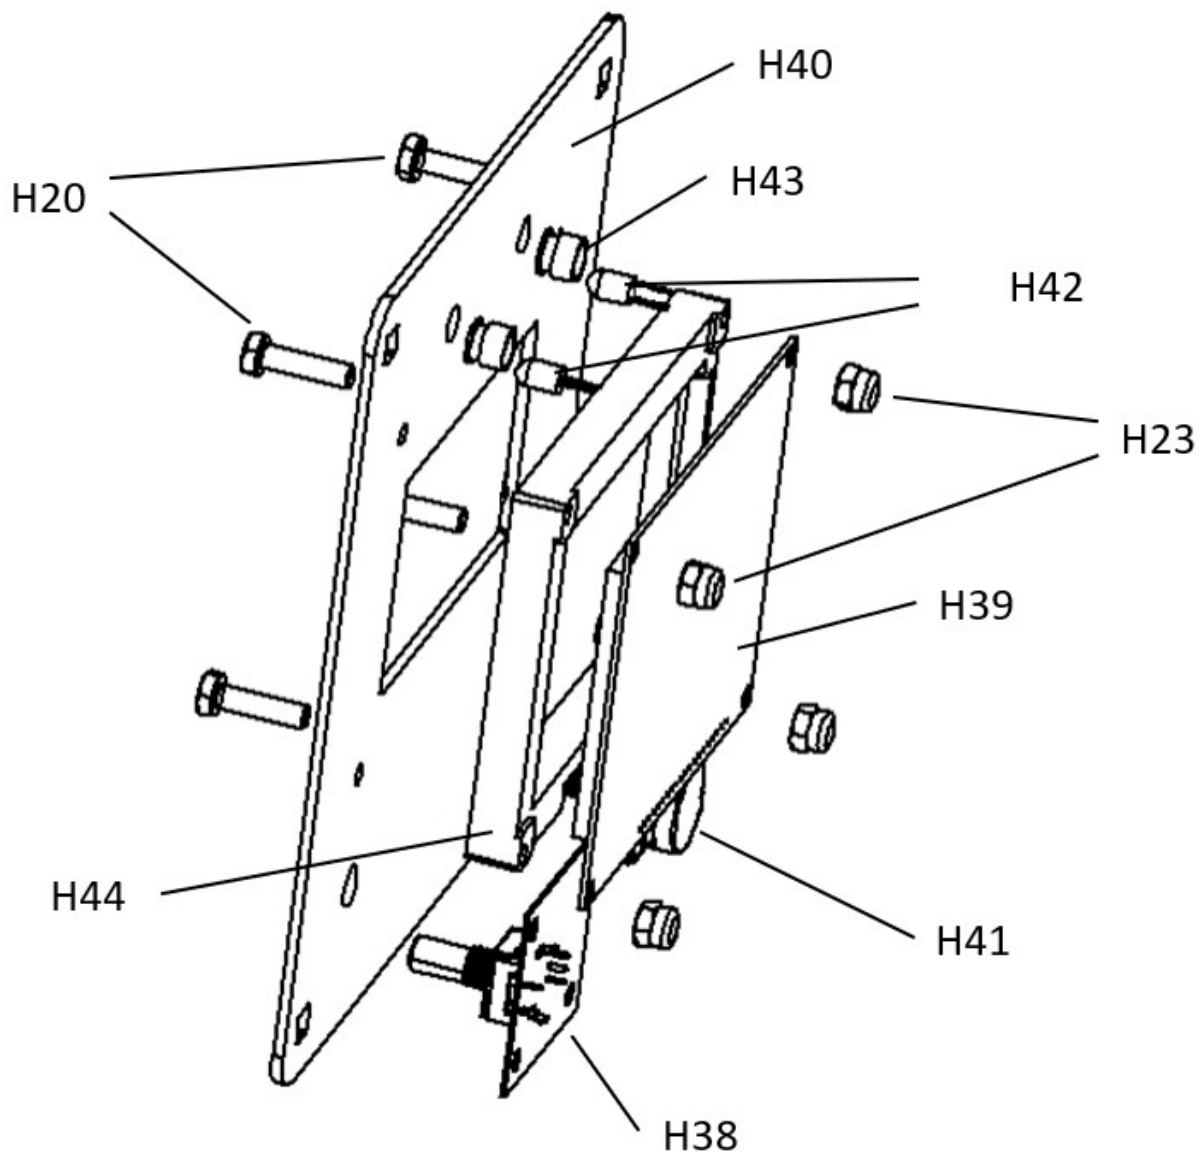

Figure 16: Exploded view of the User Interface Assembly
2. Assembly the H39 Display by placing it on the H44 DisplaySpacer as shown in figure 16. Position both on the H40 UIPlate as shown and mount it with the 4x H20 bolts and 4x H23 nuts. Do not over tighten the bolt and nuts.